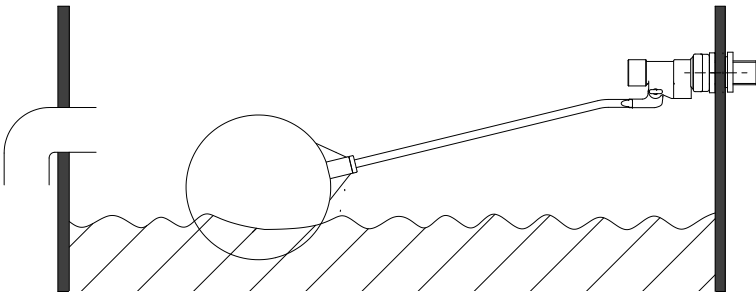

Fig. 19
- 7.16 **Float fill valve:** The float level is factory set but if in time the water level in the tank is found to be too high, the level can be adjusted by carefully bending the arm of the fill valve down slightly (see Fig. 19). Access the float fill valve by removing the lid of the tank (see Section 3 – Key Features).